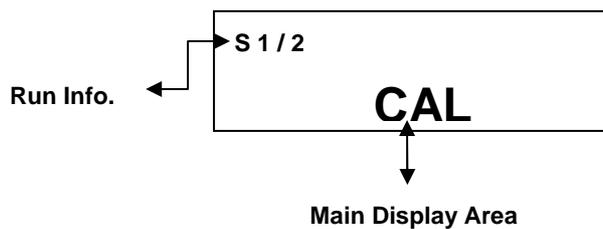

Fig. 6 Display when calibrating
1. When equilibrated at set temperature, the symbol (\blacklozenge or **s**) will be steady and users can calibrate the machine. Press “mode” key, the Main display area will show “CAL” (see Fig. 6).